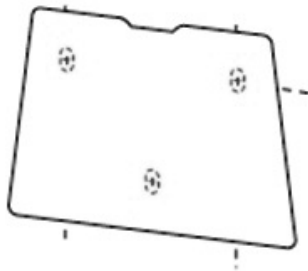

Fig. 5
1. Position the bracket (14) against the wall at the intended place. Mark the hole locations using a pencil inserted into the 3 bracket holes (see figure 5).